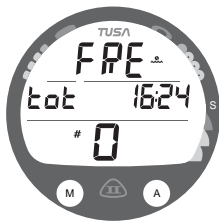

Fig. 81 - FREE SURF MAIN
**Free Surface Main**, information includes (Fig. 81) -